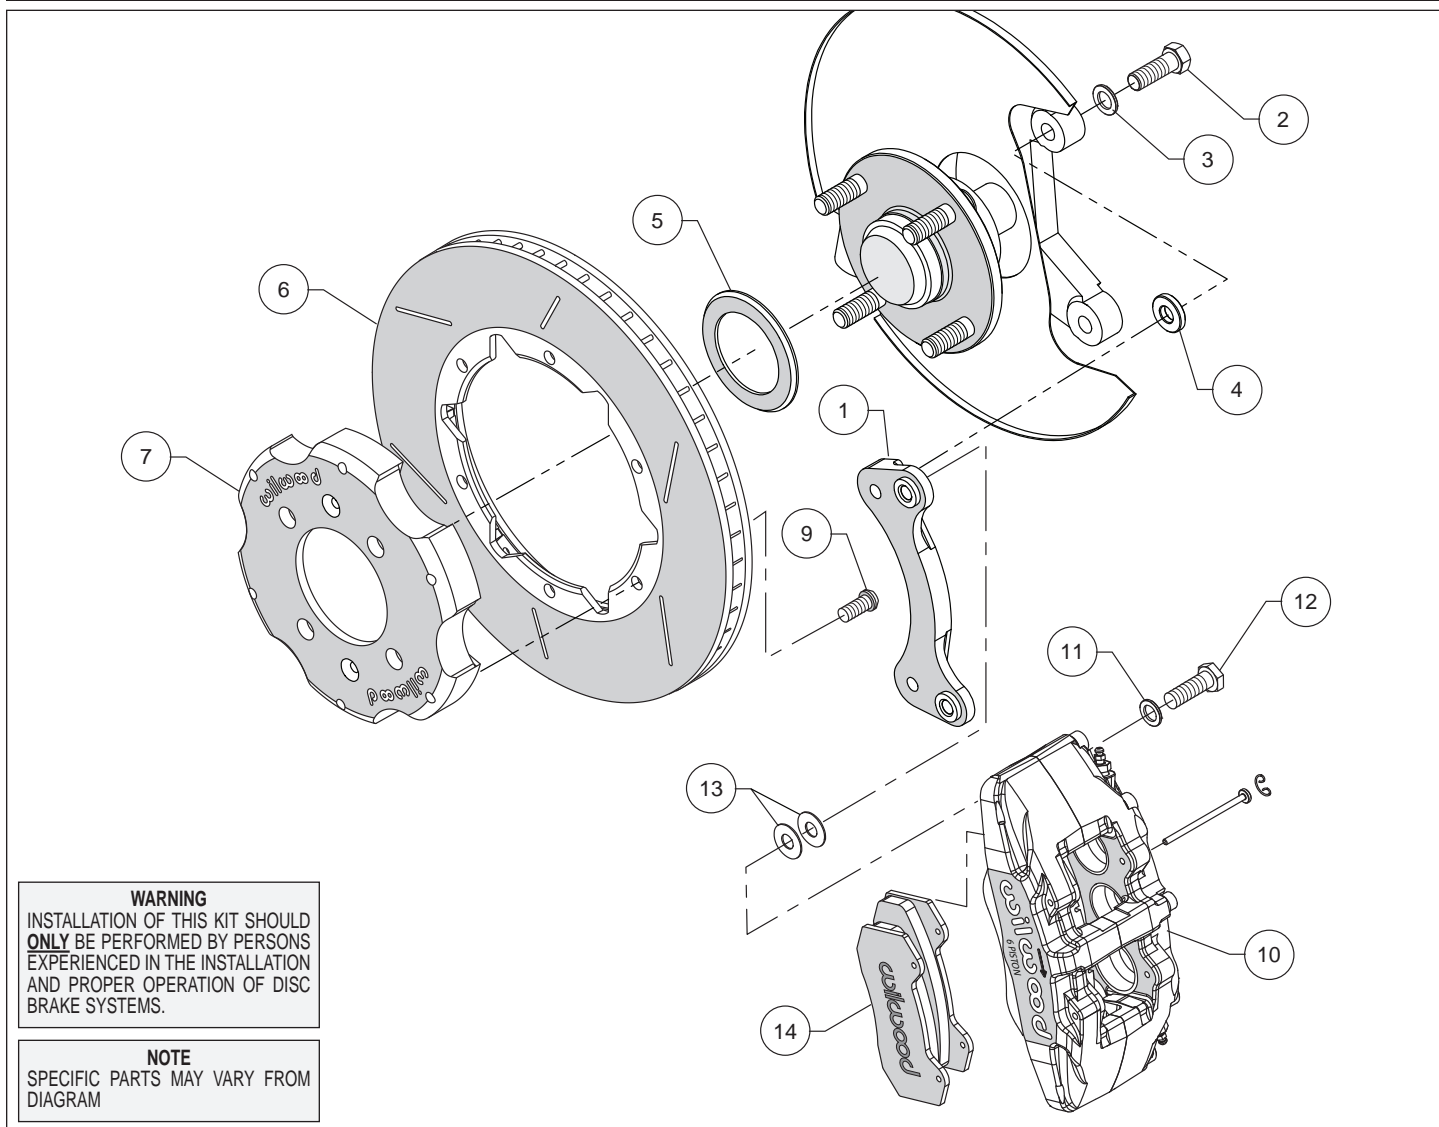
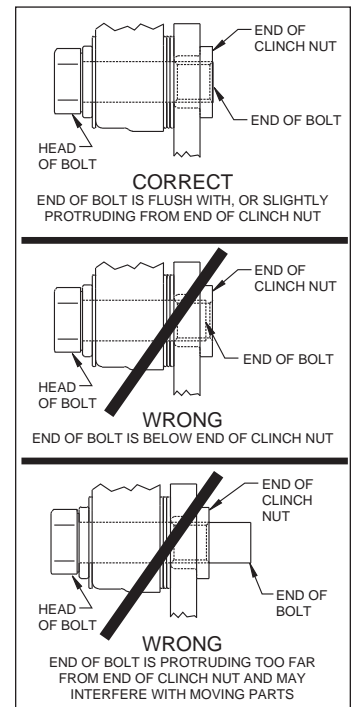

Figure 1. Typical Installation Configuration
Figure 3. Clinch Nut Engagement Diagram
**Assembly Instructions** (numbers in parenthesis refer to the parts list and Figure 1 on the preceding pages): **CAUTION:** All mounting bolts must fully engage clinch nuts. Be sure to check that all bolts are either flush or protruding through flanged side of clinch nut after shimming, Figure 3.
- Orient the caliper mount bracket (1) as shown in Figure 1 and Photo 1, and install using bolts (2) and washers (3). Place a spacer (4) on each bolt between the bracket and caliper mounting bosses, Figure 1 and Photo 2. Ensure that the flanged heads of the clinch nuts in the bracket are facing outboard, Photo 1. Temporarily tighten the mounting bolts. **NOTE:** The bracket must fit squarely against the mount bosses on the upright. Inspect for interference from casting irregularities, machining ridges, burrs, etc. Remove bolts one at a time, apply red *Loctite*® 271 to the threads and torque to 30 ft-lb.
- Orient the rotor (6) and the hat (7) as shown in Figure 1 and Photo 3. Attach rotor to hat using bolts (9). Using an alternating sequence, apply red *Loctite*® 271 to the threads, and torque to 25 ft-lbs.
- Slide the rotor registration adapter (5) onto the axle register on the axle hub with the smaller O.D. facing toward the rotor/hat (6/7), Photo 4. Slide the hat/rotor assembly onto the axle hub. **NOTE:** The hat must fit flush against the axle hub flange or excessive rotor run out may result. Install three lug nuts (finger tight) to keep the hat/rotor assembly in place while continuing with the installation.
- **NOTE:** Please reference the caution statement at the beginning of the assembly instructions. This kit contains distinct right and left hand calipers that must be mounted in a specific direction, as described below. Mount the caliper (10) onto the caliper mounting bracket (1) using bolts (12) and washers (11), as shown in Figure 1. Initially place two .035" thick shim (13) on each bolt between the caliper and the bracket, Photo 5. Ensure that the caliper is mounted so the largest pistons are at the rotor exit end of the caliper, in relation to the direction of rotor rotation. Temporarily tighten the mounting bolts and view the rotor (6) through the top opening of the caliper. The rotor should be centered in the caliper, Photo 6. If not, adjust by adding or subtracting shims between the bracket and the caliper. Always use the same amount of shims on each of the two mounting bolts. **NOTE:** The end of each bolt must be flush with or slightly protruding from the head of the clinch nut, as shown in Figure 3. If necessary place spare shims between washer (11) and caliper mounting ear to achieve the proper clinch nut engagement. Once the caliper alignment and clinch nut engagement are correct, remove the mounting bolts and caliper.
- Remove the two pad retaining pins from the caliper (10) by carefully popping out the pin retaining clips and sliding out the pins. Insert the brake pads (14) into the caliper from the bottom, Figure 1 and Photo 7, with the friction material facing the rotor. Secure the brake pads in place with the pad retaining pins and clips, Photo 8. Reinstall the caliper onto the caliper mounting bracket. Apply red *Loctite*® 271 to bolt threads (12), and torque to 40 ft-lb.